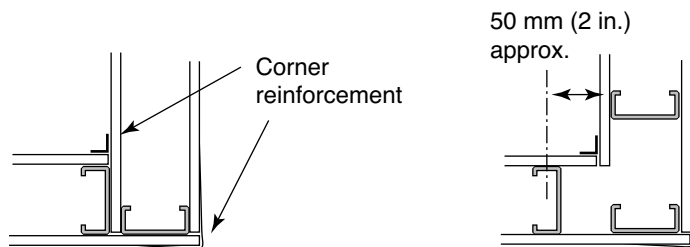

FIGURE 64
- ◆ With metal studs, run drywall from the interior of the corners through to the outside face, and provide corner reinforcement (see Figure 64).